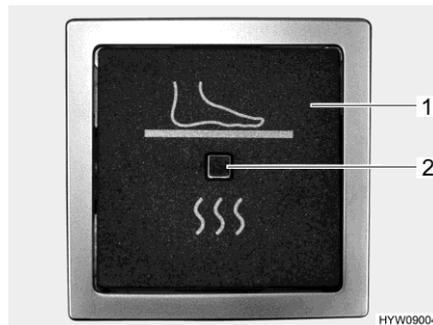

Fig. 113 Switch (electrical floor warming unit)
- Press the rocker switch (Fig. 113,1). The indicator lamp (Fig. 113,2) on the switch is illuminated.
- Press the rocker switch (Fig. 113,1). The indicator lamp (Fig. 113,2) on the switch goes off.